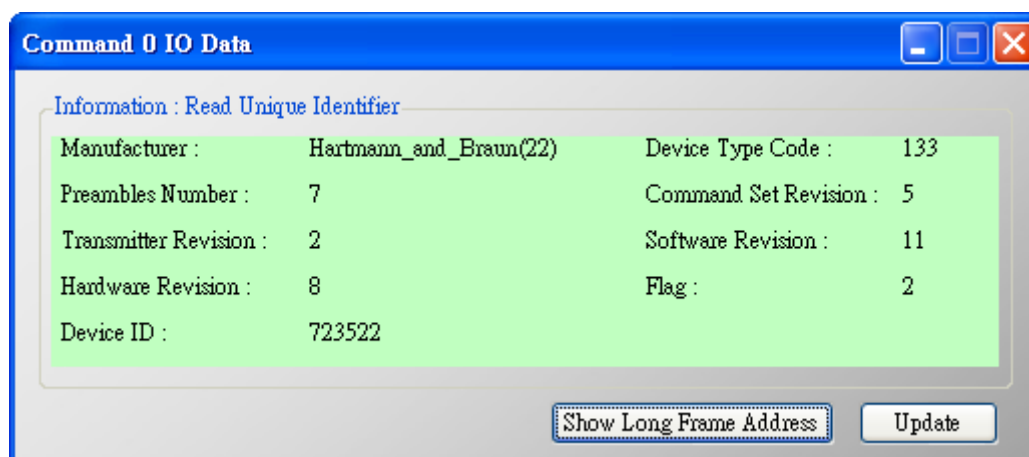

Figure 2-3 : The I/O Data screen of the “Default CMD(0)” => OK
(3) The I/O Data of the “Default CMD(0)” is OK like Figure 2-3.